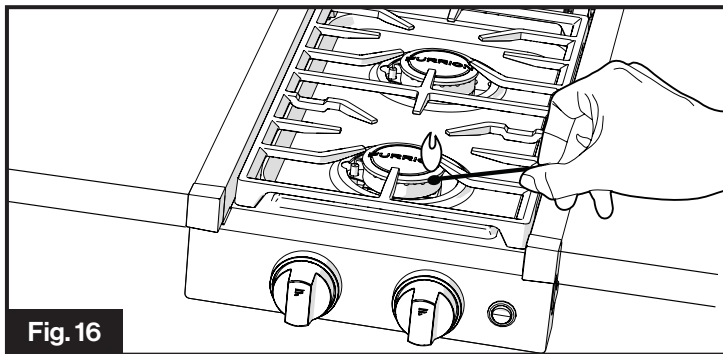

Fig. 16
1. Strike and position an extended lit long wooden match, or an extended butane lighter near the burner through the grate spaces to light the burner. (Fig.16)